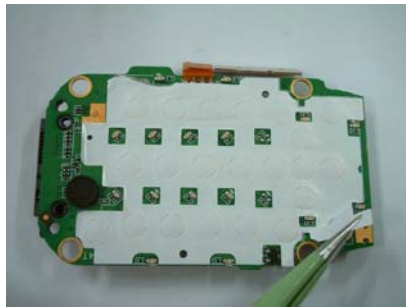

Fig.8.1
- Check that the mechanical response feels normal, and that all the keys had been shown in the display. If necessary replace the dome foil (Fig.8.1.).